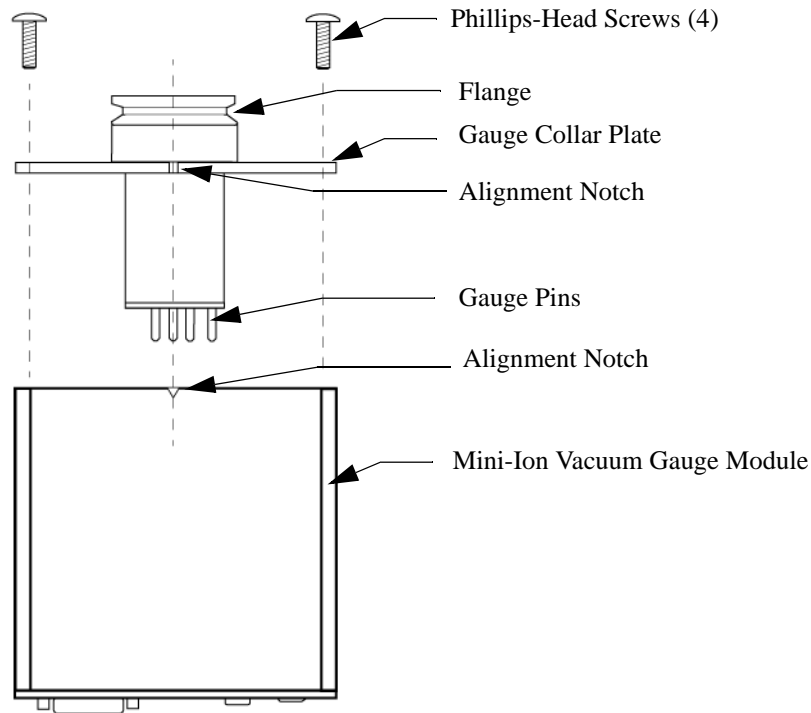

Figure 2-2 Module Removal for Baking Process Chamber.
3. Remove the four Phillips head screws from the gauge collar plate as shown in Figure 2-2.
4. While holding the flange, *gently* pull the Mini-Ion Vacuum Gauge Module away from the gauge collar plate as shown in Figure 2-2. The gauge tube and plate will disconnect from the module.
6. Align the notches on the gauge collar plate and the Mini-Ion Vacuum Gauge Module as shown in Figure 2-2.